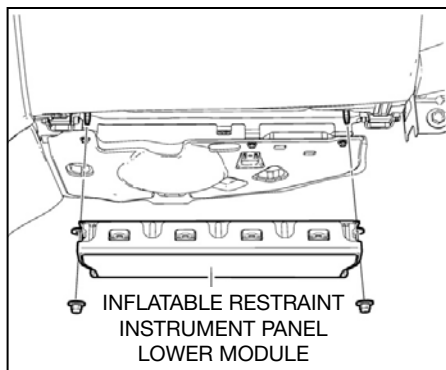

Fig. 12
1. Remove passenger side inflatable restraint instrument panel lower module (see Fig. 12).